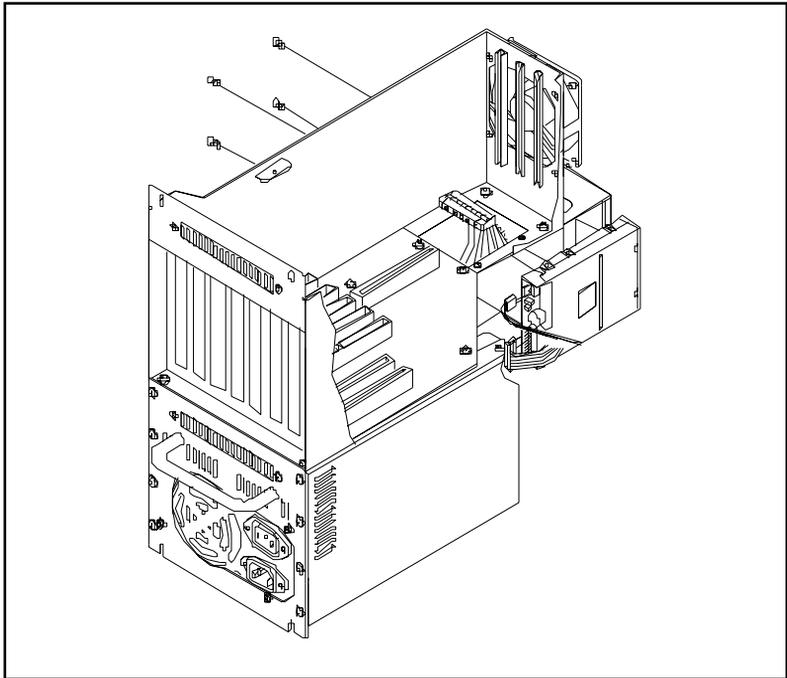

Figure 3-9: Removing the FDD
5. Unscrew the four screws on the outside of the side panel of the AWS-825B/PB unit, and remove the FDD. (See Fig. 3-9.)